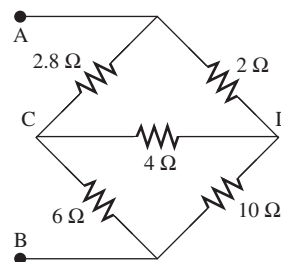

FIGURE P3.13 Bridge circuit.
- 3.13 (H)* Find R_{AB} in Figure P3.13 using Δ -Y transformation shown in Problem 3.12.